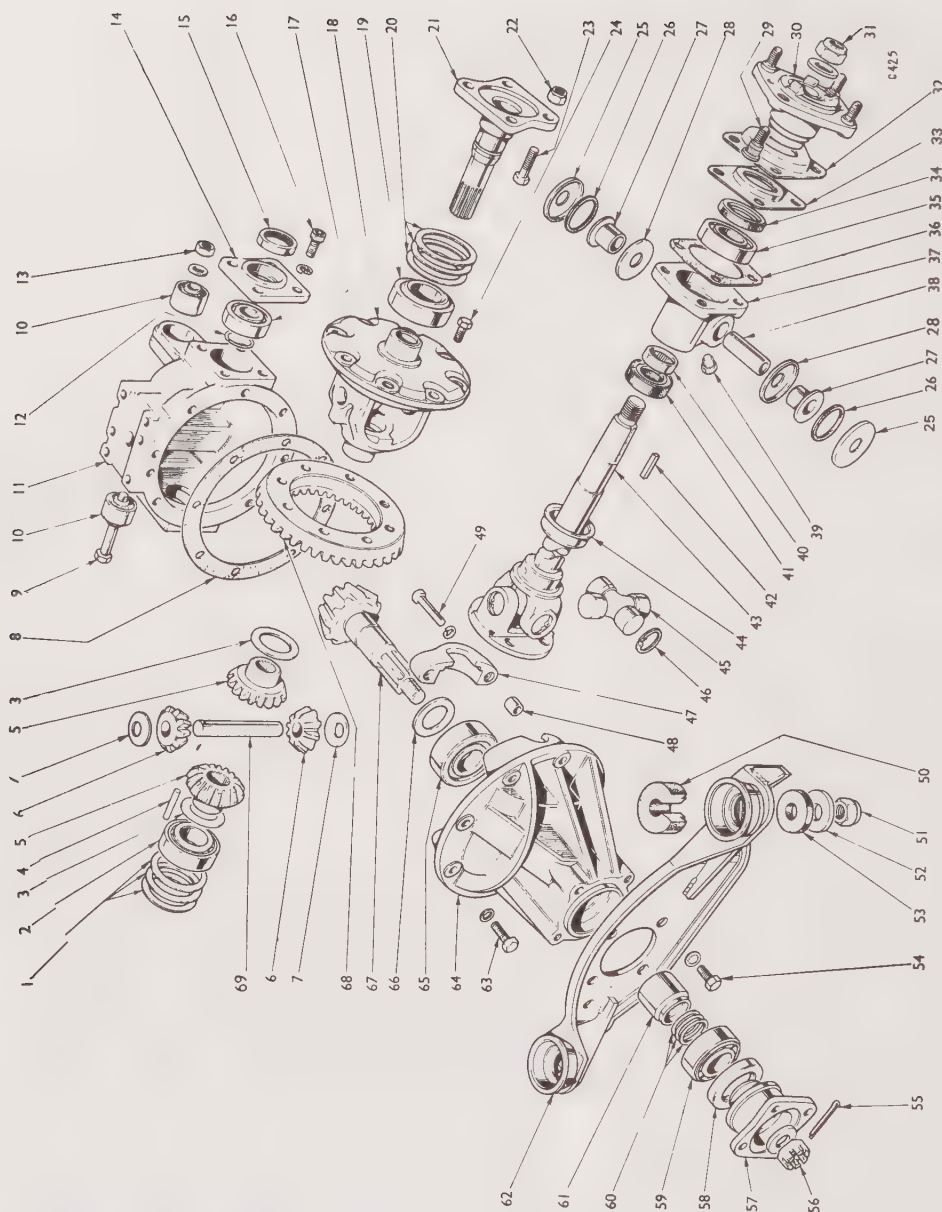

Fig 7 : 3 Components of differential unit and axle.
To reassemble the bearing housing, the drift and extractor already mentioned are required, the latter now being used as a press. With this equipment, press the needle roller bearing, radiused end leading, into the trunnion. (The correct end of the bearing can be verified by noting that the lettered end is the one which is visible when applying the press.) The bearing is pressed in to a depth of 0.5 in (12.7 mm) from the trunnion face, as shown on FIG 7:11. The inner oil seal is then drifted into the trunnion with its
- Key to Fig 7 : 3**